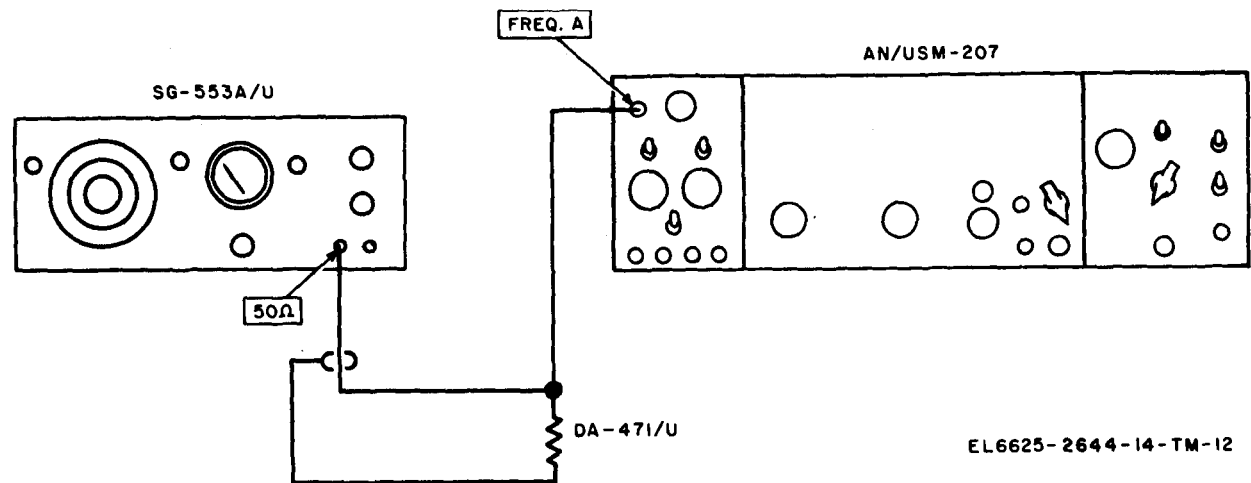

Figure 7-1. Frequency range and dial accuracy, test setup.
- b. **Test Connections and Conditions.** Terminate the 50 ohms output using DA-471/U and interconnect the equipment as shown in figure 7-1.